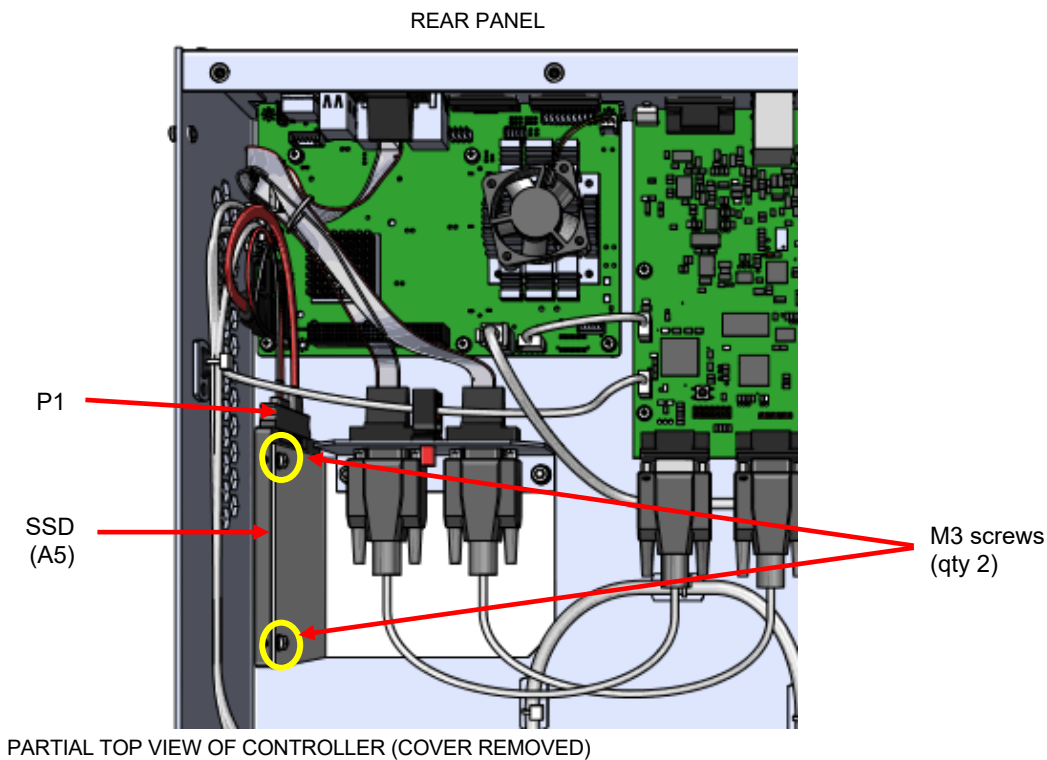

Figure 7: Removing the Existing SSD
- (a) Remove and retain the thirteen (13) M3 Phillips head screws, securing the top cover on the module.
- (b) Disconnect P1 (large black connector) from the SSD assembly (see Figure 7). **Do not** remove SATA1 or SATA_PWR1 connectors from P1.
- (c) Use a Phillips screwdriver to remove the two (2) M3 screws that secure the SSD to its mounting bracket (see Figure 7). Retain hardware. Remove the SSD from the controller.
- (f) Use a Phillips screwdriver and two (2) M3 screws retained in step (c) to secure the new SSD to the mounting bracket (see Figure 7).
- (g) Connect P1 (large black connector) to the new SSD (see Figure 7).